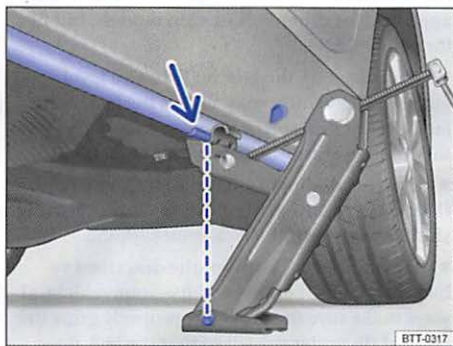

Fig. 185 Jack in position at the left rear lift point.
7. Position the jack so that its base is directly underneath the lift point ⇒ page 333, fig. 185, making sure that the entire base of the jack rests securely on the ground.
8. Align the jack and wind up the jack claw at the same time, until the claw cradles the vertical rib underneath the vehicle ⇒ page 333, fig. 185 (arrow).
- Position the jack only at the described vehicle lift points. Before you raise your vehicle, always make sure the jack claw properly grips the vertical rib under the sill so that the jack does not slip off when you are raising the vehicle ⇒ page 333, fig. 185.